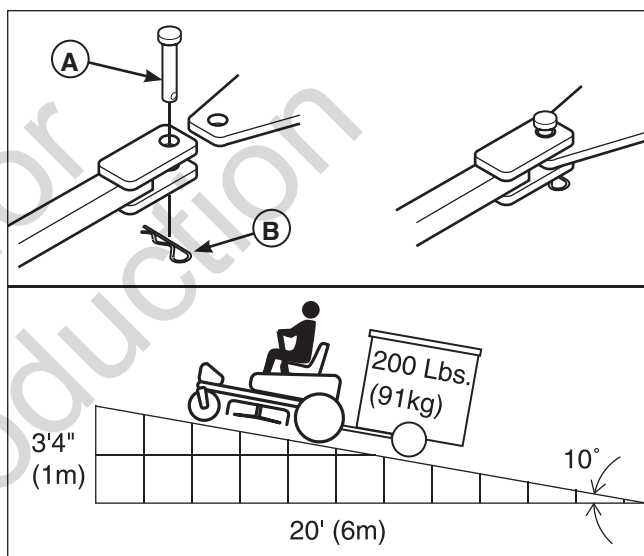

Figure 19. Trailer Weight Recommendations
The maximum weight of a towed trailer should be less than 200 lbs (91kg). Secure the trailer with an appropriately sized clevis pin (A, Figure 19) and clip (B).